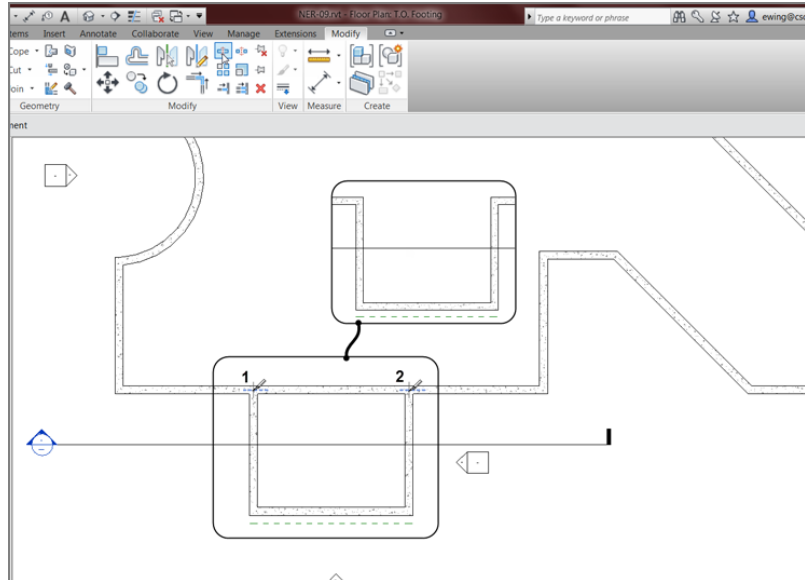

FIGURE 8.56: Splitting the foundation wall to follow the profile of the wall above
1. Zoom in on the area, as shown in Figure 8.56.
2. On the Modify tab, click the Split Element button (see Figure 8.56).
3. On the Options bar, click the Delete Inner Segment check box (see Figure 8.56).
4. Pick the points marked 1 and 2 in Figure 8.56, and press Esc twice.